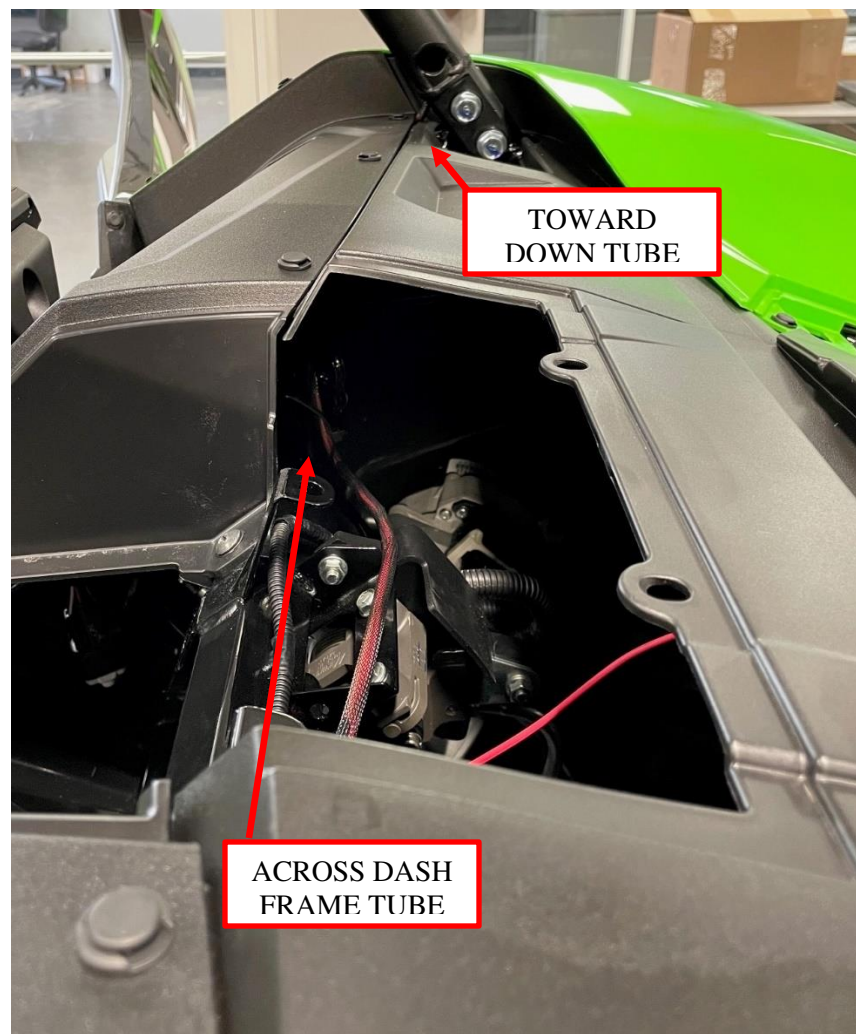

Figure 12: Route chassis harness toward driver's side down tube.
10. Route the chassis harness behind the instrument cluster and across the upper dash frame tube toward the driver's side front down tube as shown in Figure 12.